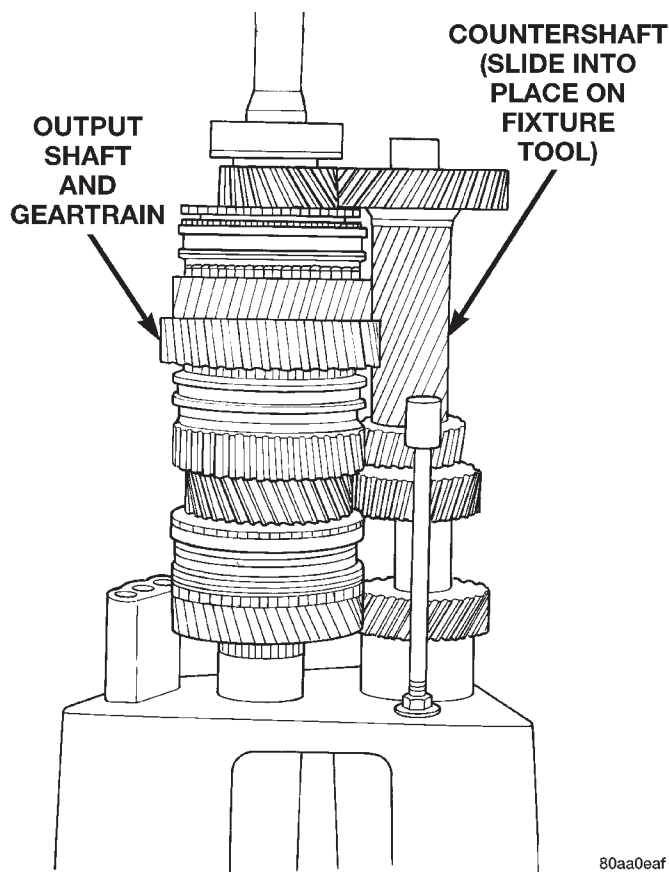

Fig. 89 Countershaft Installed On Fixture Tool
(7) Install Adapter 6747-2A on front bearing hub of countershaft, if not previously done. The adapter has a shoulder on one side. The shoulder goes toward the countershaft.
(8) Slide countershaft (and adapter) into fixture slot. Verify that countershaft and output shaft gears are fully meshed with the mainshaft gears before proceeding (Fig. 89).
(9) Check alignment of countershaft and output shaft gear teeth. Note that gears may not align perfectly. A difference in height of 1.57 to 3.18 mm (1/16 to 1/8 in.) will probably exist. This difference will not interfere with assembly. However, if the difference is greater than this, the countershaft adapter tool is probably upside down. Remove countershaft, reverse adapter tool, reinstall countershaft and check alignment again.